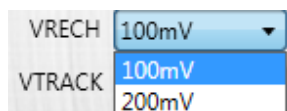

Figure 13: V_{RECH} Setting
11. Set the battery auto-recharge voltage to V_{BATT_REG} minus the setting value (see Figure 13). Its options are 100mV or 200mV, and the default value is 100mV.